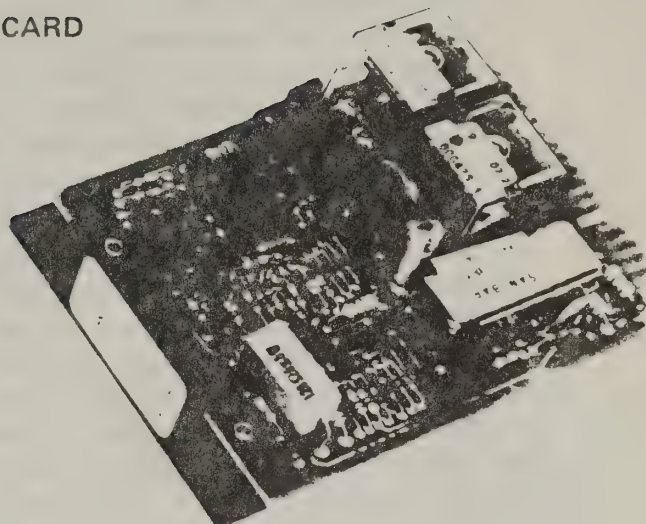

Fig. 1. SB4200 Line Card
1.2 The SAN/BAR 4200 Line Card (Fig. 1) is a simplified KTU line circuit designed for full compatibility with all types of key telephone systems working in conjunction with central office or EPBX/PABX equipment. In addition, the 4200 enables the caller to provide music on T and R to the party called when in the hold condition. Also, the 4200 can be optionally used with STC type interface connecting arrangements.